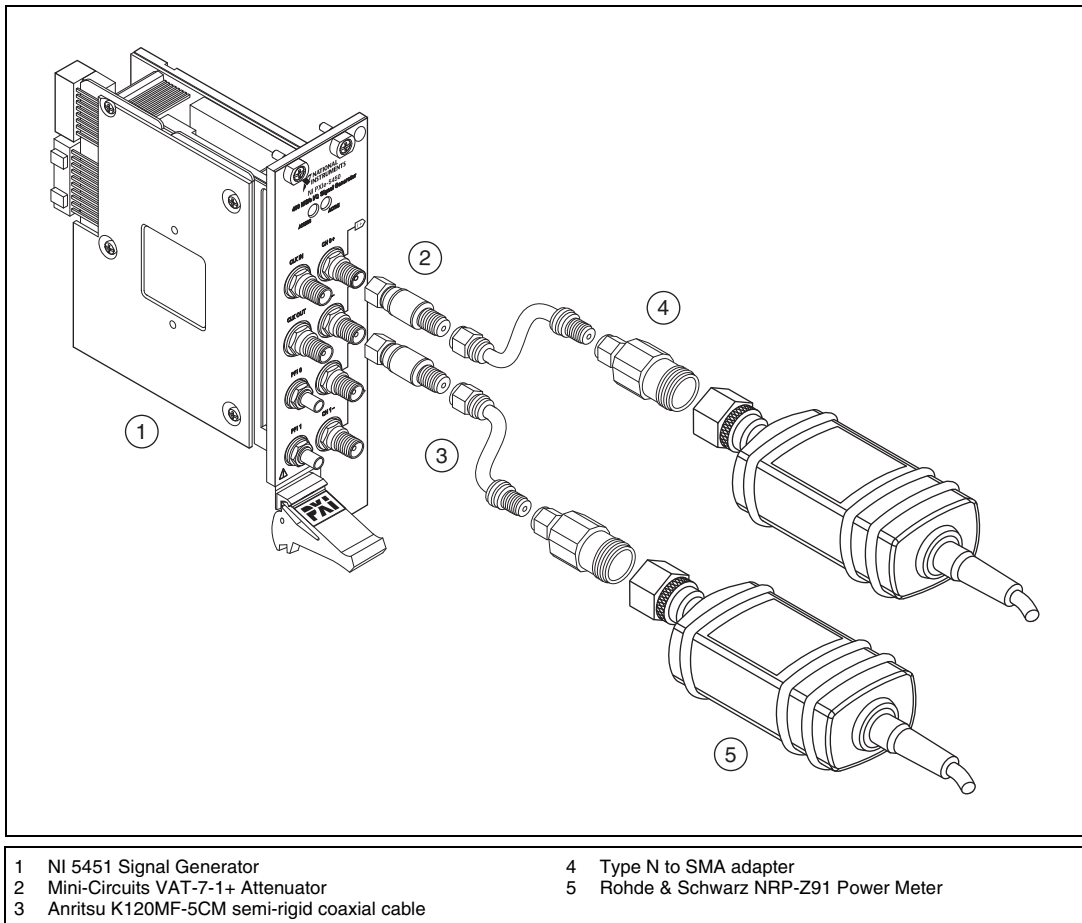

Figure 9. NI 5451 Connection to Power Meters Using Attenuators (CH 0)
1. Connect the devices as shown in Figure 9, using semi-rigid coaxial cables to connect the power meters simultaneously if necessary.